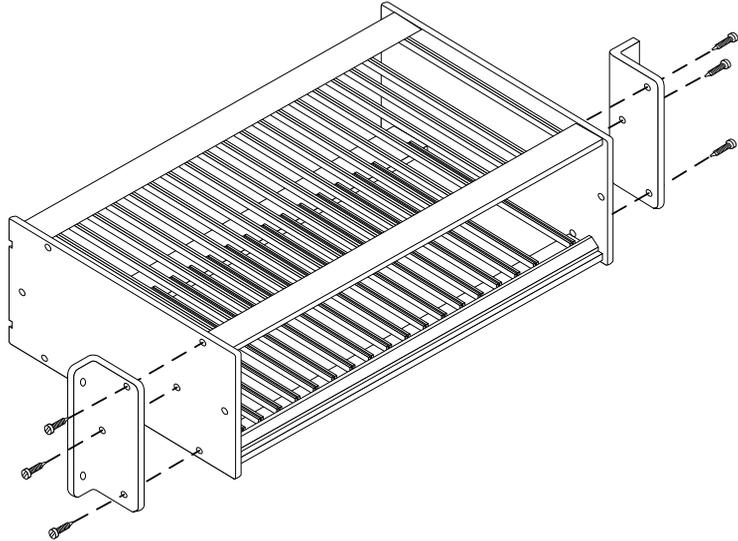

Figure 3. PSAX 1250 Chassis with Mid-Position-Mounted Brackets
- Mounting angle brackets are placed in a position with frame-attaching flanges facing the rear for mid-position mounting in a telco frame. See Figure 3 for the positioning of the brackets.